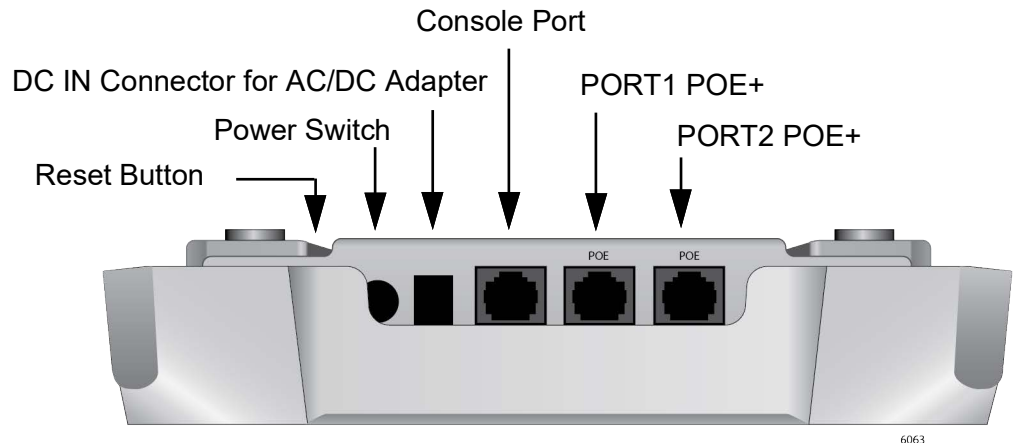

Figure 4. Back Edge View
The back edge view is illustrated in Figure 4.
- Power Switch** The Power Switch on the back panel in Figure 4 on page 14 turns On or OFF the access point when power is supplied to the access point only from the AC adapter, not from PoE LAN ports (PORT1 and PORT2).
- Reset Button** The access point has a Reset button on the back edge in Figure 4 on page 14 for returning the parameter settings of the device to their default values. You might reset the access point if you want to discard its current configuration or if you forgot the manager password and so cannot manage the device.